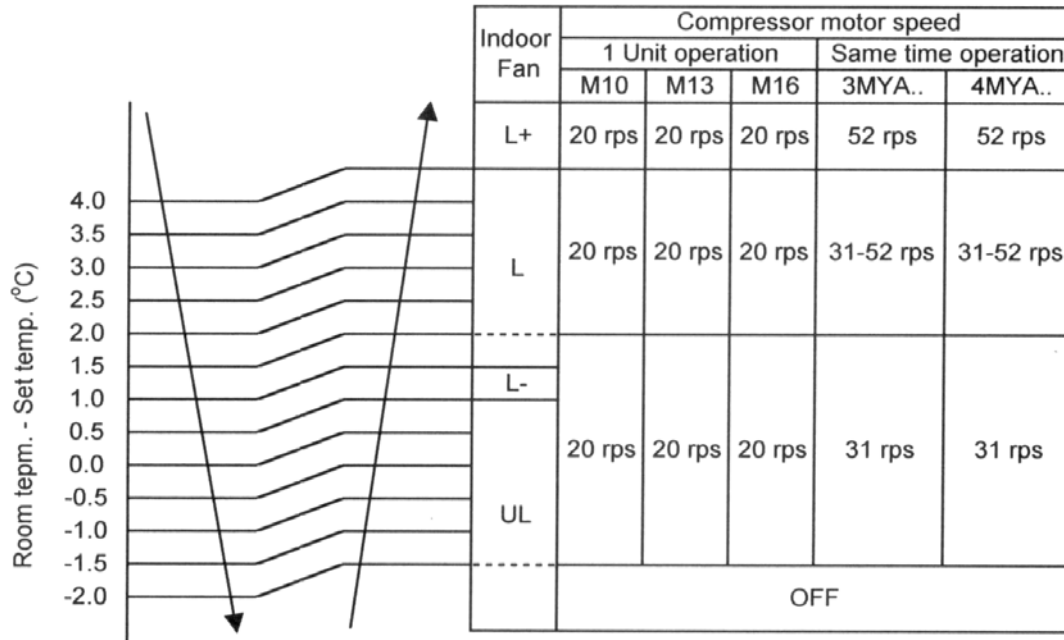

Fig. 6-2-5
- The compressor motor speed in control as shown in Fig. 6-2-5